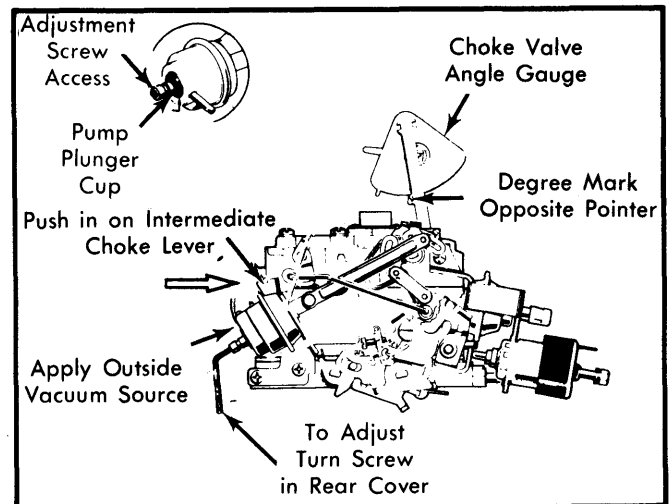

Fig. 9 Secondary Vacuum Break Adjustment
- 1) Remove secondary choke vacuum break from carburetor. Place vacuum break bracket in vise and carefully grind off adjustment screw cap. Reinstall vacuum break. Using an outside vacuum source, seat secondary choke vacuum break diaphragm. See Fig. 9.